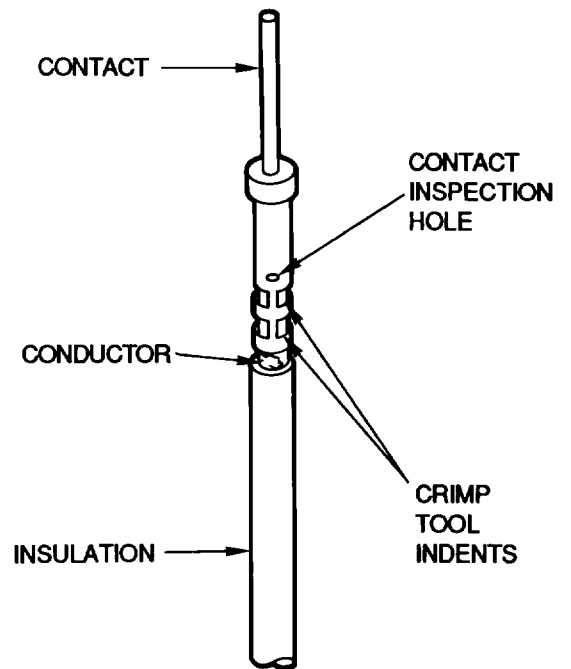
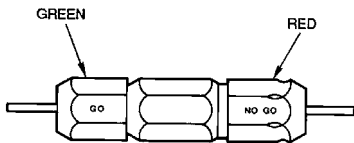

Figure 28. M22520/1-01 Setup, Adjustment, and Operation (Sheet 4)
Figure 29. Inspection Gage
54. **Periodic Gaging.** To ensure accurate calibration, the gaging task shall be performed before each series of crimping operations (such as at the beginning of a task). Periodic gaging is required to ensure proper crimp dimensions and tool calibration, and is performed as per Figure 28 (Sheet 1 and 2) using tool M22520/39-1 (see Figure 29).
57. **Inspection Gage.** The inspection gage is a Go/No Go gage used to ensure accurate crimps. The gage ends are color coded green for Go, red for No Go as illustrated (Figure 29).
63. **Crimp Depth (Die Closure).** A positive crimp depth is controlled by an 8 position selector knob located on the tool frame. The operator dials in the desired step for the wire being used and locks the setting with a locking pin as illustrated (Figure 29).